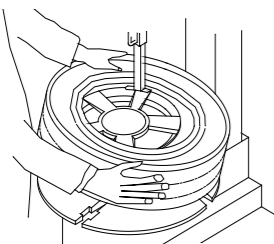

Fig.07
- Take out the tube if there is one. Turn over the wheel to let the other side toward the mount/demount head, and repeat the above steps to demount the other side bead. (See Fig.07).